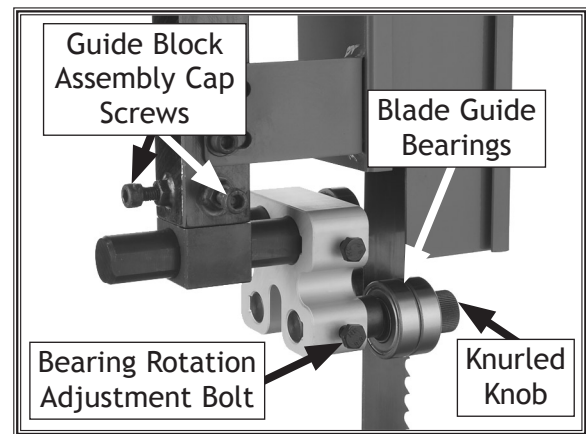

Figure 27. Upper blade guide controls (rear view).
3. Familiarize yourself with the upper blade guide controls shown in **Figure 27 & 28**.
3. Familiarize yourself with the upper support bearing controls shown in Figures 27 & 28 on Page 23.